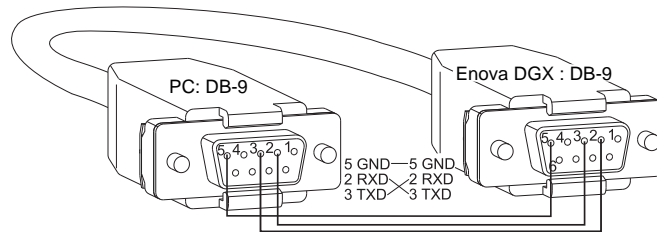

FIG. 84 RS-232 pinout for null modem serial cable
1. **Serial connection (DB-9)** – Attach a null modem serial cable without hardware flow control to the serial Control port (DB-9 connector) on the enclosure. Use a serial cable that matches the RS-232 pin diagram in FIG. 84. Enova DGX equipment uses pins 2, 3, and 5 only.